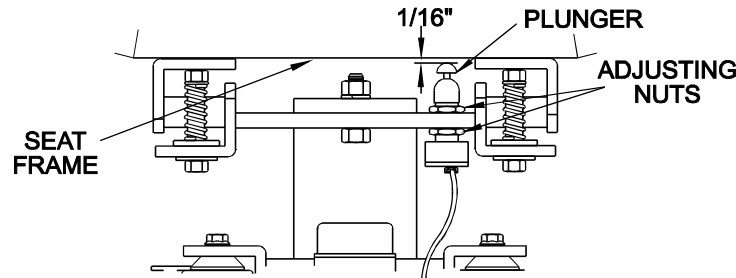

FIG. 11
- a) With operator out of seat, adjust the seat switch to provide a 1/16" clearance between the switch plunger and the seat frame (See Figure 11).